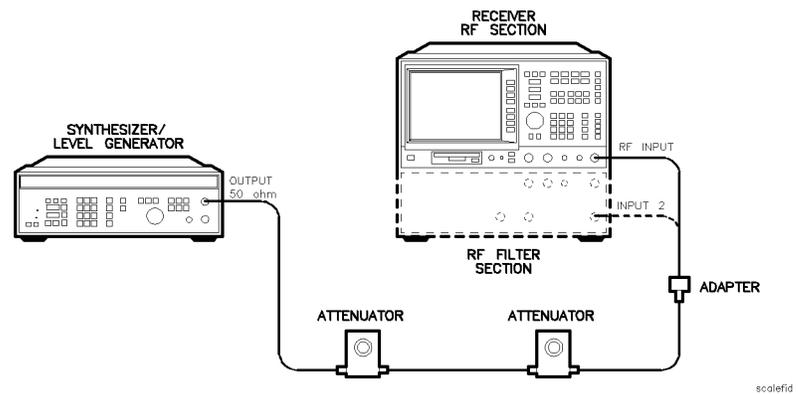

Figure 2-9. Scale Fidelity Test Setup
2. Connect the equipment as shown in Figure 2-9. Set the 10 dB step attenuator to 10 dB attenuation and the 1 dB step attenuator to 0 dB attenuation.